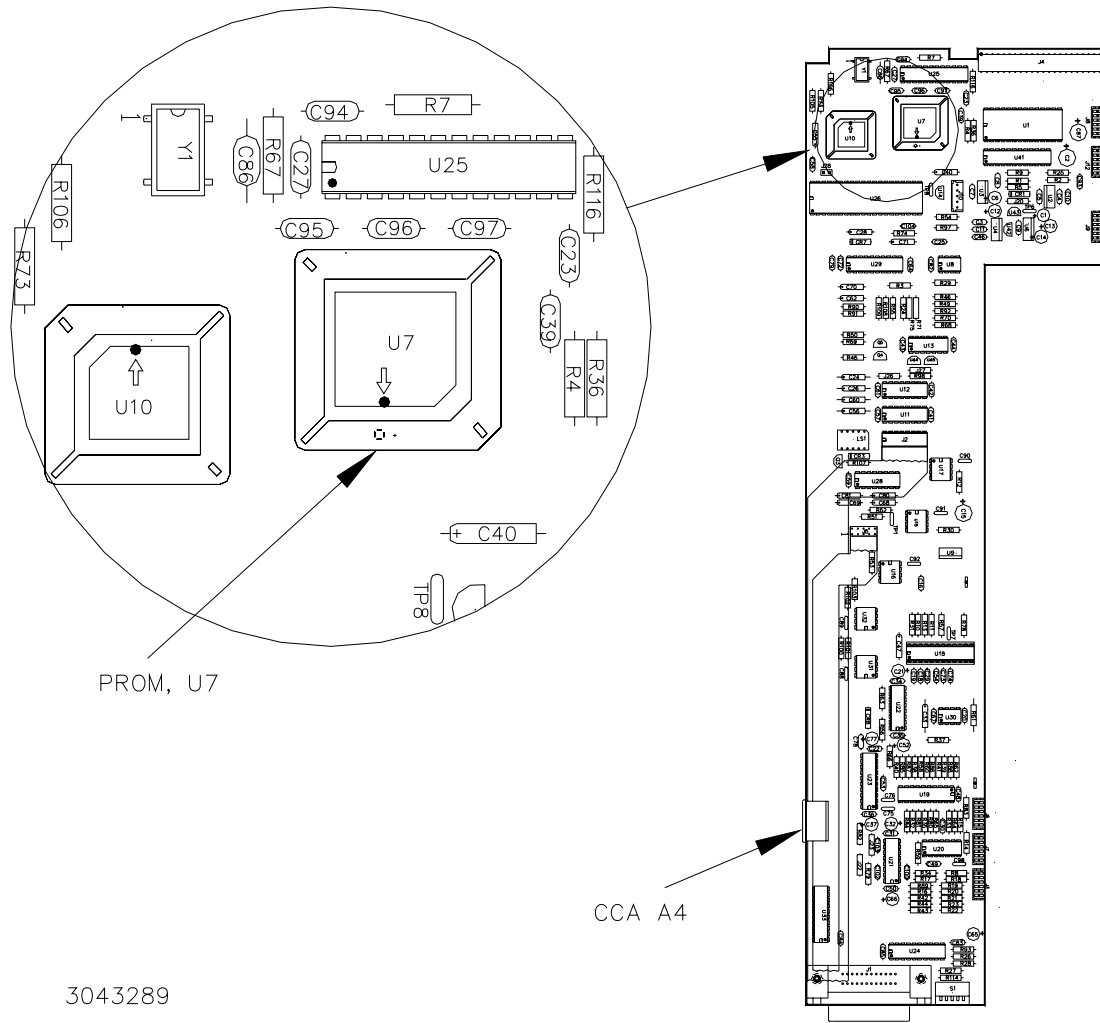

FIGURE 1. CIRCUIT CARD ASSEMBLY A4 PROM U7 LOCATION
2.3 CIRCUIT CARD ASSEMBLY (CCA) A4 PROM U7 REPLACEMENT (SEE FIGURE 1)
1. Locate PROM U7 on A4 CCA near the front of the power supply. Note the orientation of the label of the device installed in the PLCC socket. (see Figure 1).